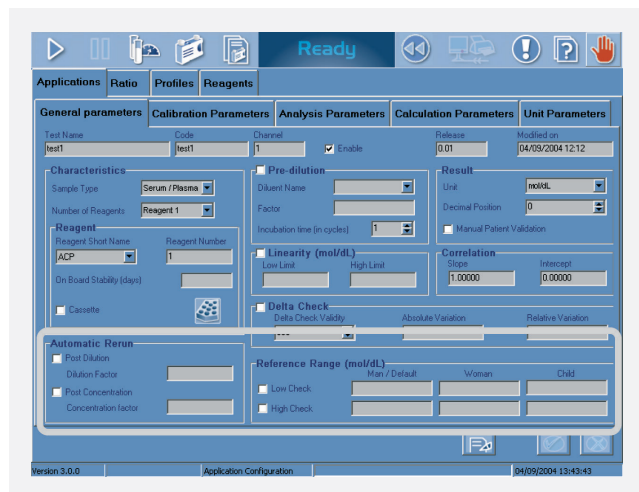

Figure 4 System Configuration
- Tabs are selected at the top of the screen (Figure 4):